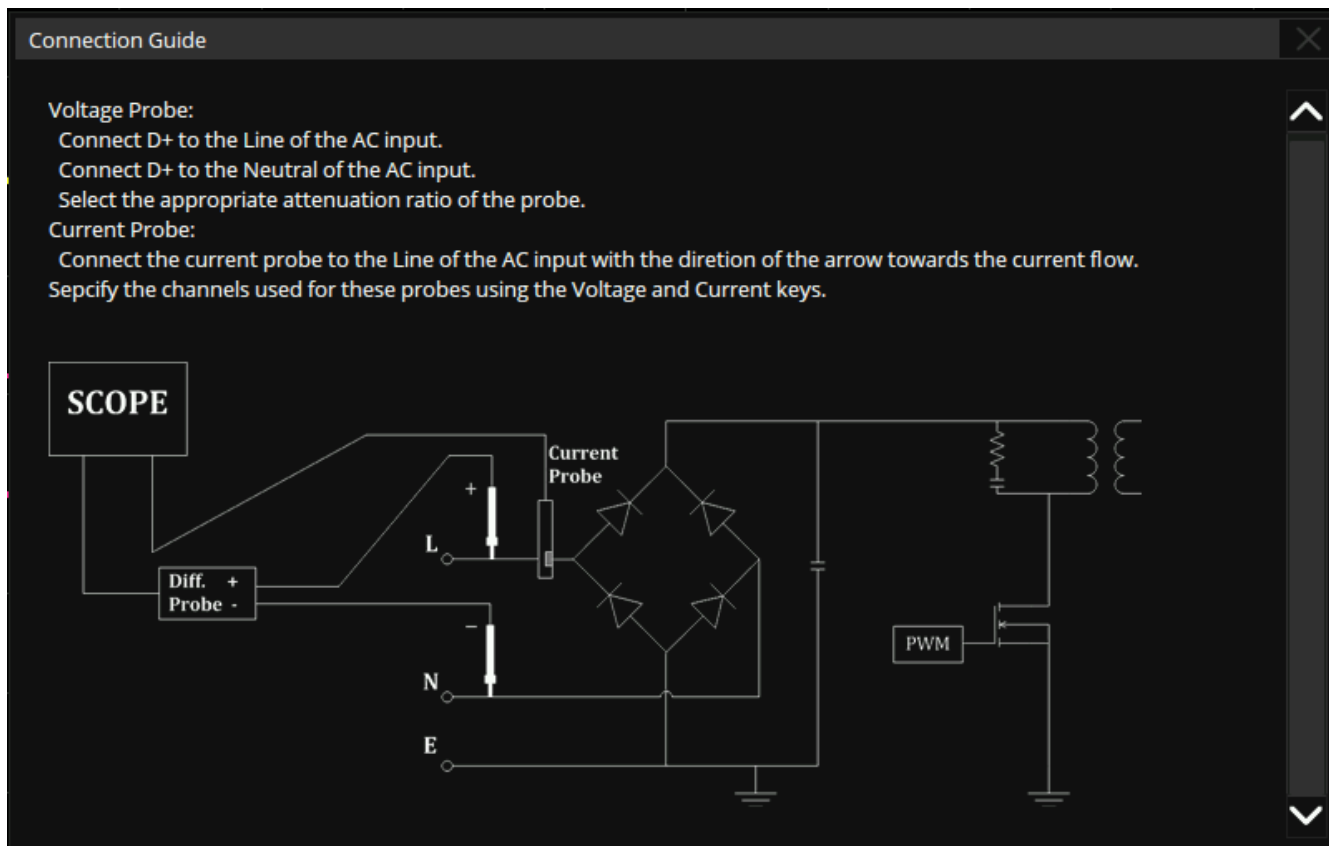

Figure 19.9 Connection Guide
6. Touch **Connection Guide Inrush** to display a diagram illustrating the procedure setup. See figure 19.9